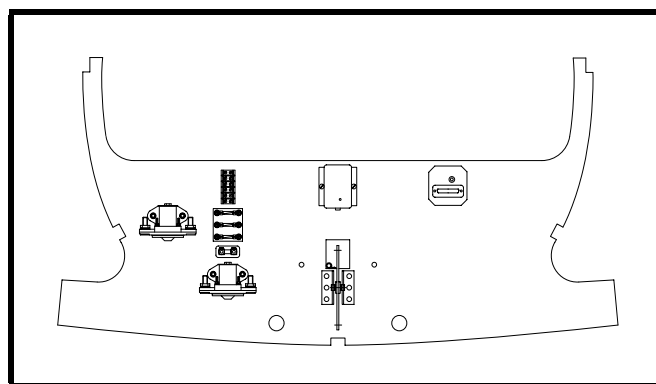

Figure 27
- ☐ Locate the two P/N 762, with P/N 760 in place, on the aft face of frame No. 6 and drill the six 3/16"Ø holes through frame No. 6. Do not drill through P/N 805. See Figure 27.